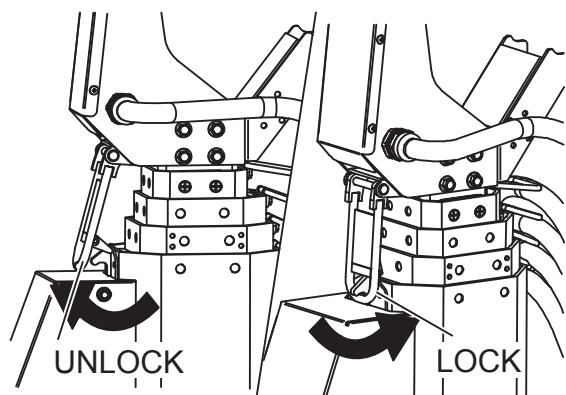

Figure 13. Unlocking the Shackle
- Unlock the shackle (Figure 13).